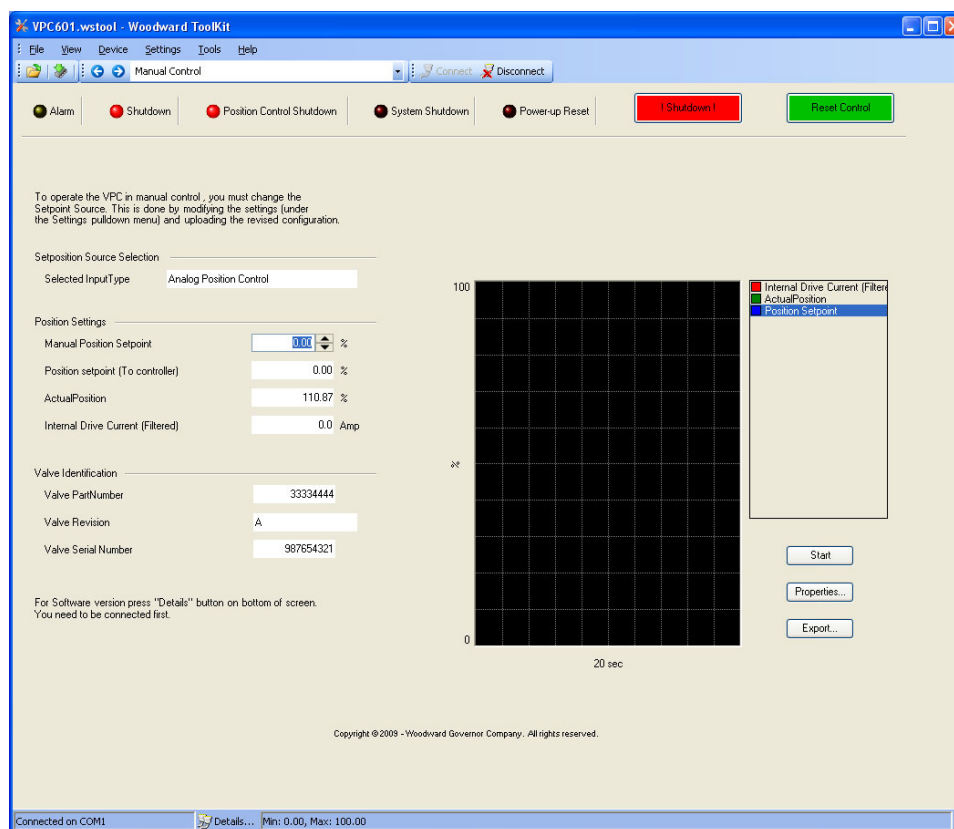

Figure 4-9. Manual Control Screen
- Manual Control**—Displays Manual valve stroking mode (Figure 4-9).
The Manual Control screen is used during initial commissioning or when troubleshooting to confirm the operation of the WT6. This screen can also be used to monitor the ability of the system to respond to a change in position setpoint, valve position, motor current level and valve identification (Figure 4-9).